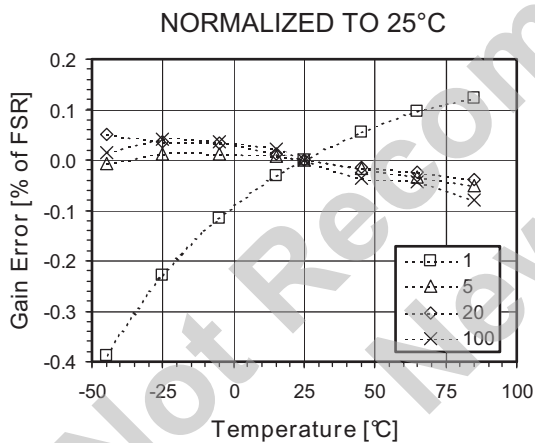

Figure 49. Gain Error vs. Temperature for Different Gains
**Figure 49** shows gain error drift vs. temperature for different PGA gains. The curves are expressed in % of Full-Scale Range (FSR) normalized to 25°C.